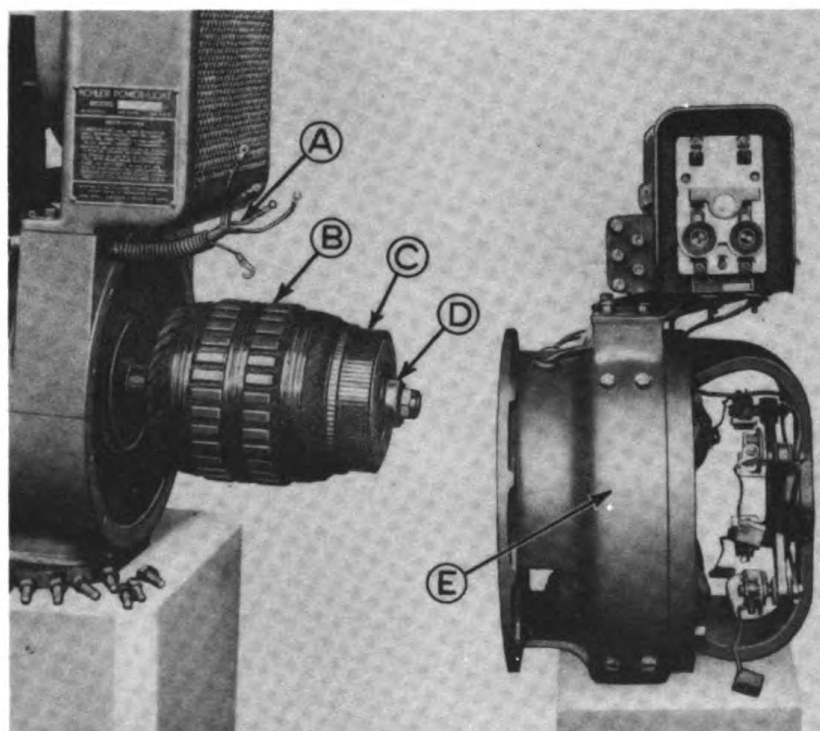

FIGURE 14
**INSTALLING ENDLESS FAN BELTS:** All new plants are fitted with endless type belts and if practicable to do so, we recommend that the endless belt be used. When the endless belt is to be installed, observe the following instructions: (See Fig. 14.)